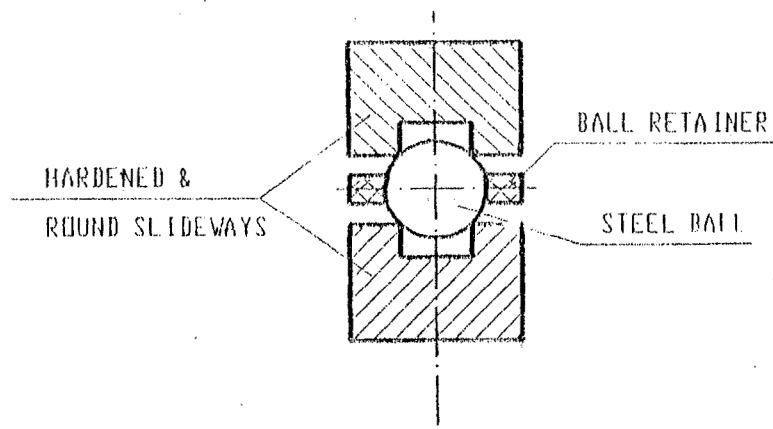

Fig. 2a
- 3.1 This is just for the machine which provided with ball rolling slideways. (Fig. 2a)